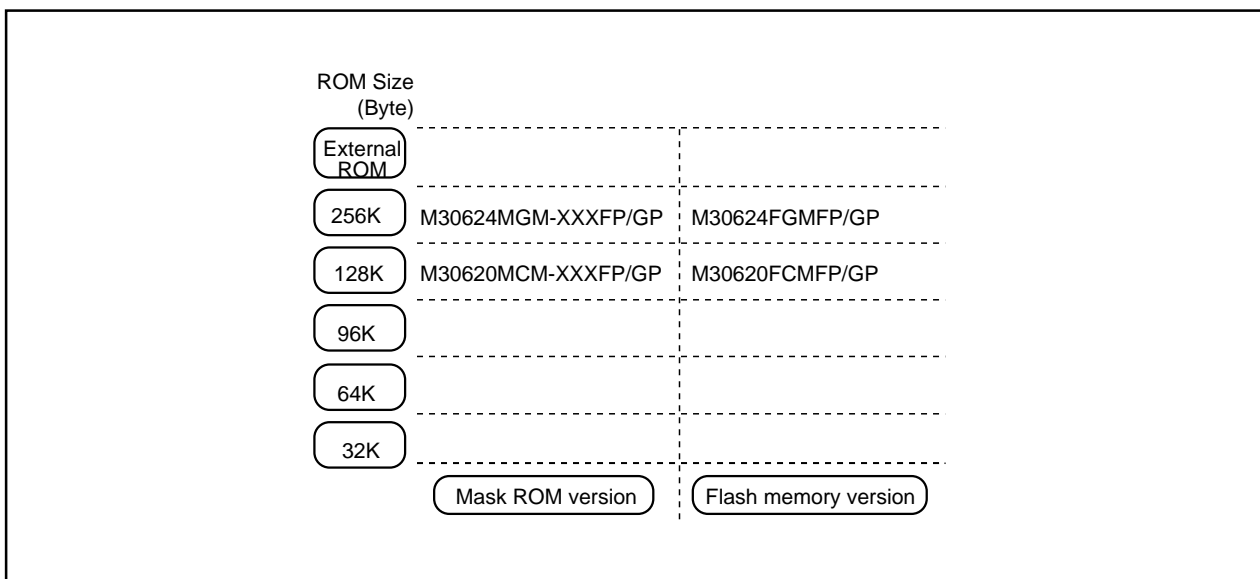

Figure 1.1.4. ROM expansion
- Memory capacity ROM (See Figure 1.1.4. ROM Expansion)
| Memory capacity | ROM | (See the figure 1.1.4. ROM Expansion) |